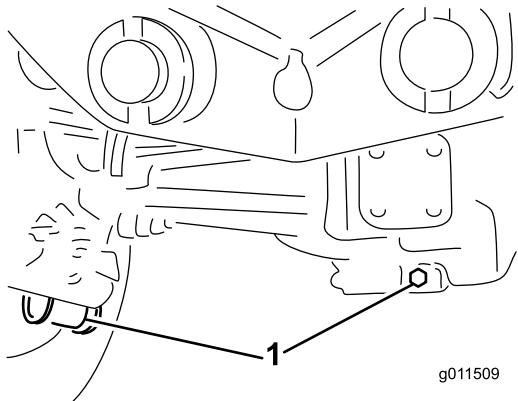

Figure 91
- Clean the area around the 3 drain plugs; 1 on each end and 1 in the center (Figure 91).